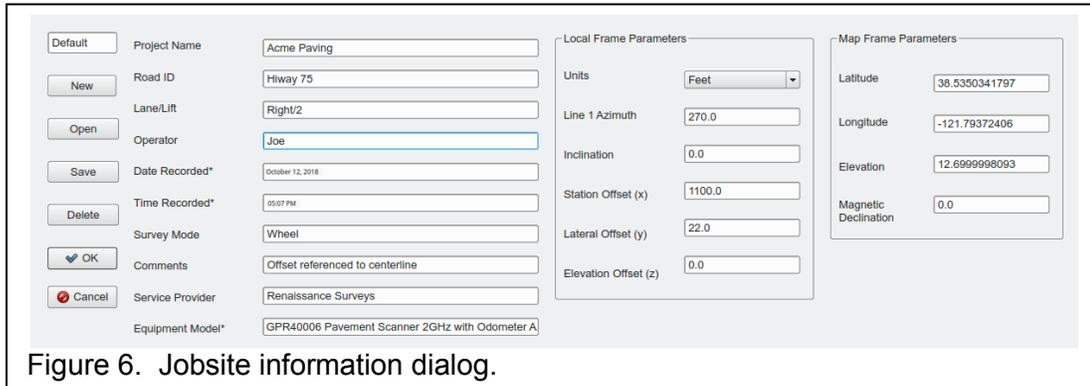

Figure 6. Jobsite information dialog.
7. Before beginning a survey, it is important to capture information about the jobsite. Press the Jobsite information button  to bring up the dialog shown in Figure 6. The information entered into this dialog will be listed in any reports that will be generated by the software. To type into dialog field, click on the field to place the cursor, then press the  icon on the taskbar to bring up the keyboard.
8. Before beginning a survey, it is important to capture information about the jobsite. Press the ***Jobsite information*** button to bring up the dialog shown in Figure 6. The information entered into this dialog will be listed in any reports that will be generated by the software. To type into dialog field, click on the field to place the cursor, then press the  icon on the taskbar to bring up the keyboard.